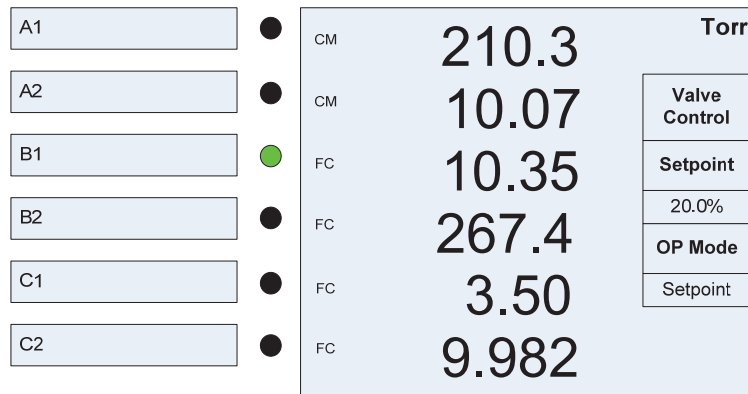

Figure 6-26 Front Display with Valve Control Dialog Box
1. Press the  button to the front panel display with valve control dialog box as shown in Figure 6-26. Please note that this screen will not show up if no pressure control is inserted in the COMM/VLV slot.
- For Set Point control the valve (set the valve opening to specific position), it is required to (1) set an appropriate value for Set Point (such as 20.0% in Figure 6-26), and (2) change the OP Mode to Set Point, or just simply press the  key, and press  key afterward to confirm the operation. Note that the set point value can be adjusted lively under the Set Point OP Mode without stopping the Set Point control.
- Manual operation mode enables the dynamic manual adjusting the valve position. Once the manual operation mode is selected, the dialog box as shown in Figure 6-26 will disappear, the
If you want to close the valve, press the  key until front display is as shown in Figure 6-26, move the cursor to OP Mode, and change the parameter to Close, or just simply press the  button, and press the  key afterward to confirm the operation.
If you want to open the valve, press the  key until front display is as shown in Figure 6-26, move the cursor to OP Mode, and change the parameter to Open, or just simply press the  button, and press the  key afterward to confirm the operation.
3. Set the valve to fixed position defined by the set point as shown in Figure 6-26
If you want to set the valve to fixed position, press the  key until front display is as shown in Figure 6-26, move the cursor to OP Mode, and change the parameter to Set Point, or just simply press the  button, and press the  key afterward to confirm the operation.